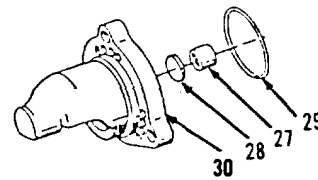

Figure 4-75.
19. Install one of two new preformed packings (34) and pin (33) through holes in housing (39) and lever (36).
20. Install remaining one of two new preformed packings (34) and ring (32) on pin (33).
21. Install new preformed packing (29) on groove in housing (30, Figure 4-75).